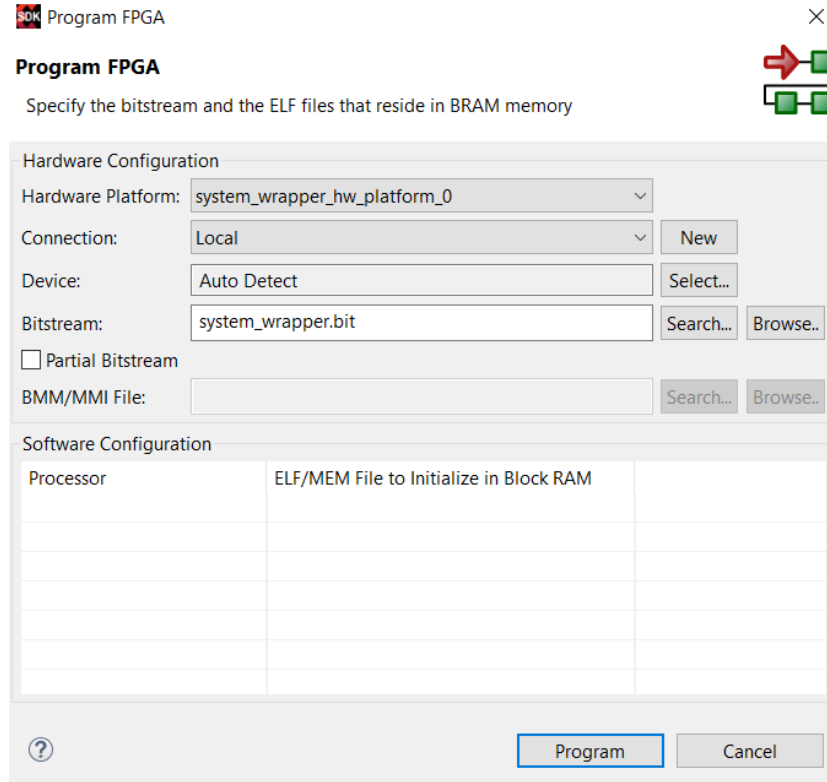

Figure 26: Programming the FPGA
42. Before we can load the software application on the board, we need to program the hardware with the **.bit** file generated from the block design. In the top menu, select **Xilinx Tools → Program FPGA**. Use Figure 26 to make sure you have the proper settings and then click **Program** to program the FPGA. The